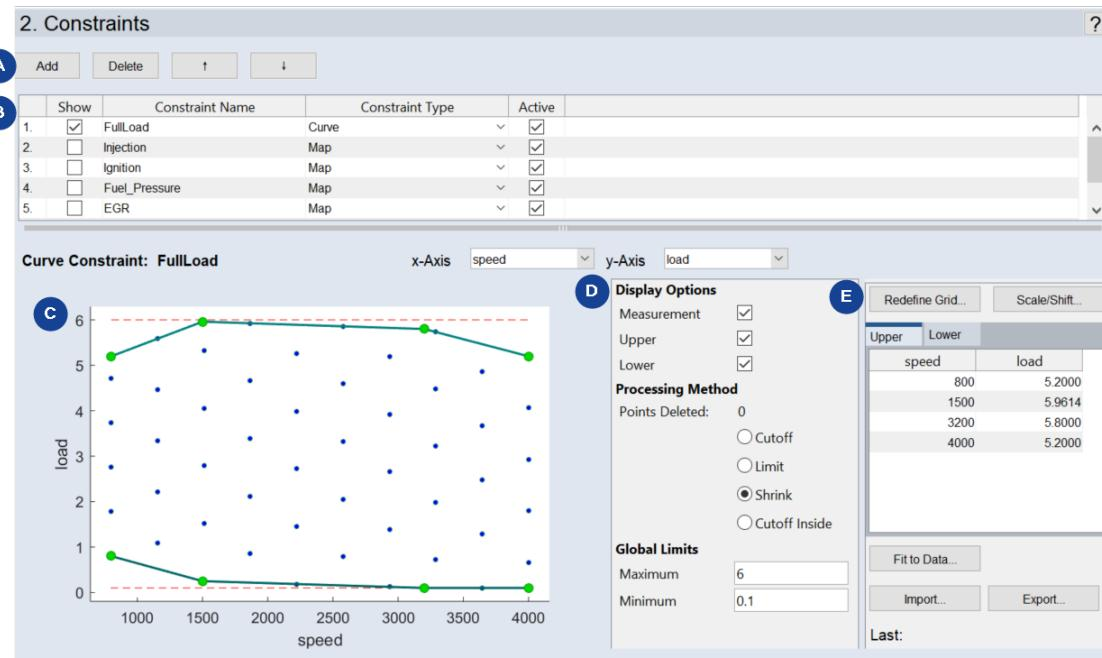

Fig. 7-2: ASCMO-STATIC ExpeDes Step 2: Constraints (Type "Curve")
1. Click **Add** to create a new constraint (see A in Fig. 7-2: above).
What is shown in the bottom part of the window (regions **C**, **D**, **E** in Fig. 7-2) depends on the **Constraint Type**.
If a completely specified constraint is selected in the list, the measurement points of the current experiment plan are displayed in a 2D (Curve, see Fig. 7-2: on the previous page) or 3D plot (Map).
The display of the measurement points is controlled via the **Measurement** option (region **D** in Fig. 7-2: on the previous page). In addition, the thicker points of the grid with which the constraint of areas is controlled are also displayed (see "Table for Displaying and Editing the Grid Nodes" on page 194).
2. In the constraint plot (region **C** in Fig. 7-2: on page 191), click a point of the constraining line/area and hold the mouse button pressed.
The numeric values of the constraining points are shown in the tables on the right (**Upper** and **Lower** tabs; region **E** in Fig. 7-2: on page 191) and can be processed in these (both in terms of quantity and value); see "Table for Displaying and Editing the Grid Nodes" on the next page.
The grid nodes can be edited in the tables to the right of the plot (region **E** in Fig. 7-2: on page 191). One tab each is available for the upper and lower constraint.